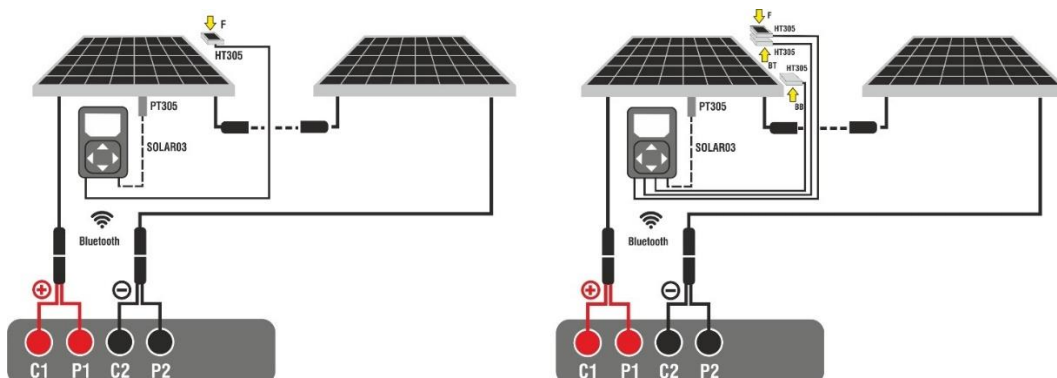

Fig. 64: Connection with remote unit SOLAR03 on Monofacial and Bifacial modules
3. Connect the instrument and the SOLAR03 remote unit to the module/string being tested as shown in Fig. 64. In detail:
- **In case of Bifacial modules**→, position the **three HT305 reference cells** on the front surface of module (**F**), on the top back section (**B T=BackTop**) and on the bottom back section (**BB=BackBottom**) of the module. Connect the front reference cell (F) to input "INP1", BT reference cell to input "INP2", BB reference cell to input "INP3" and **possibly** the temperature probe **PT305** to input "INP4" of the remote unit. In accordance with the IEC/EN60904-1-2 standard, the instrument calculates the equivalent front-side Irradiance (**Irr_{Eq}**) value, which corresponds to the Irradiance on the front surface only, which produces the same effects as the Irradiance measured on both sides, considering the **bifaciality factor** (ϕ) of the module according to the following relationship: